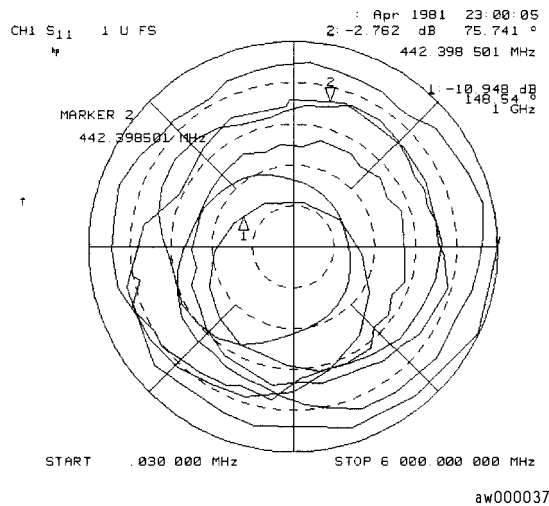

Figure 7-19. Example S₁₁ Measurement Trace in Polar Format with Markers
- 2 Press **SCALE REF**, *AUTO SCALE* to reposition the trace as shown in Figure 7-19.
The HP 8702D shows the results of an S_{11} measurement with each point on the polar trace corresponding to a particular value of both magnitude and phase. The center of the circle represents a reflection coefficient (Γ) of 0, (that is, a perfect match or no reflected signal). The outermost circumference of the scale shown in Figure 7-19 represents $\rho = 2.00$, or 200% reflection. The phase angle is read directly from this display. The 3 o'clock position corresponds to zero phase angle (that is, the reflected signal is at the same phase as the incident signal). Phase differences of 90° , 180° , and -90° correspond to the 12 o'clock, 9 o'clock, and 6 o'clock positions on the polar display, respectively.
- 4 Turn the front panel knob to position the marker at any desired point on the trace, then read the frequency, linear magnitude and phase in the upper right hand corner of the display, as shown in **Figure 7-19**.